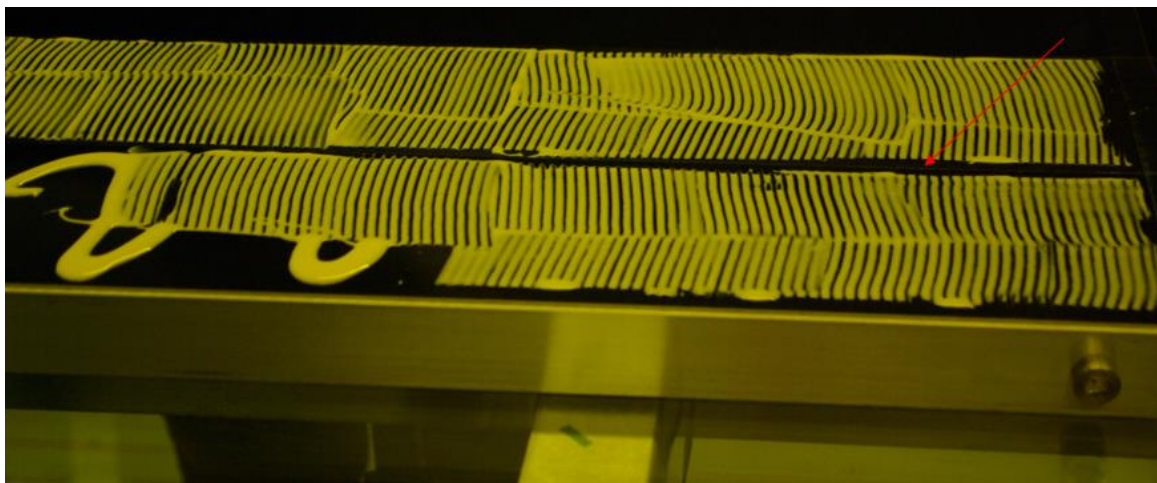

Figure 45 Spreading of the glue with the toothed spatula
5.1.4.9 One person apply the glue (Glue Araldit 116) on each mat with the glue applicator in sinuous lines and the second follows by spreading the glue with the toothed spatula. Not spread until the borders of each mat (see Figure 45)!